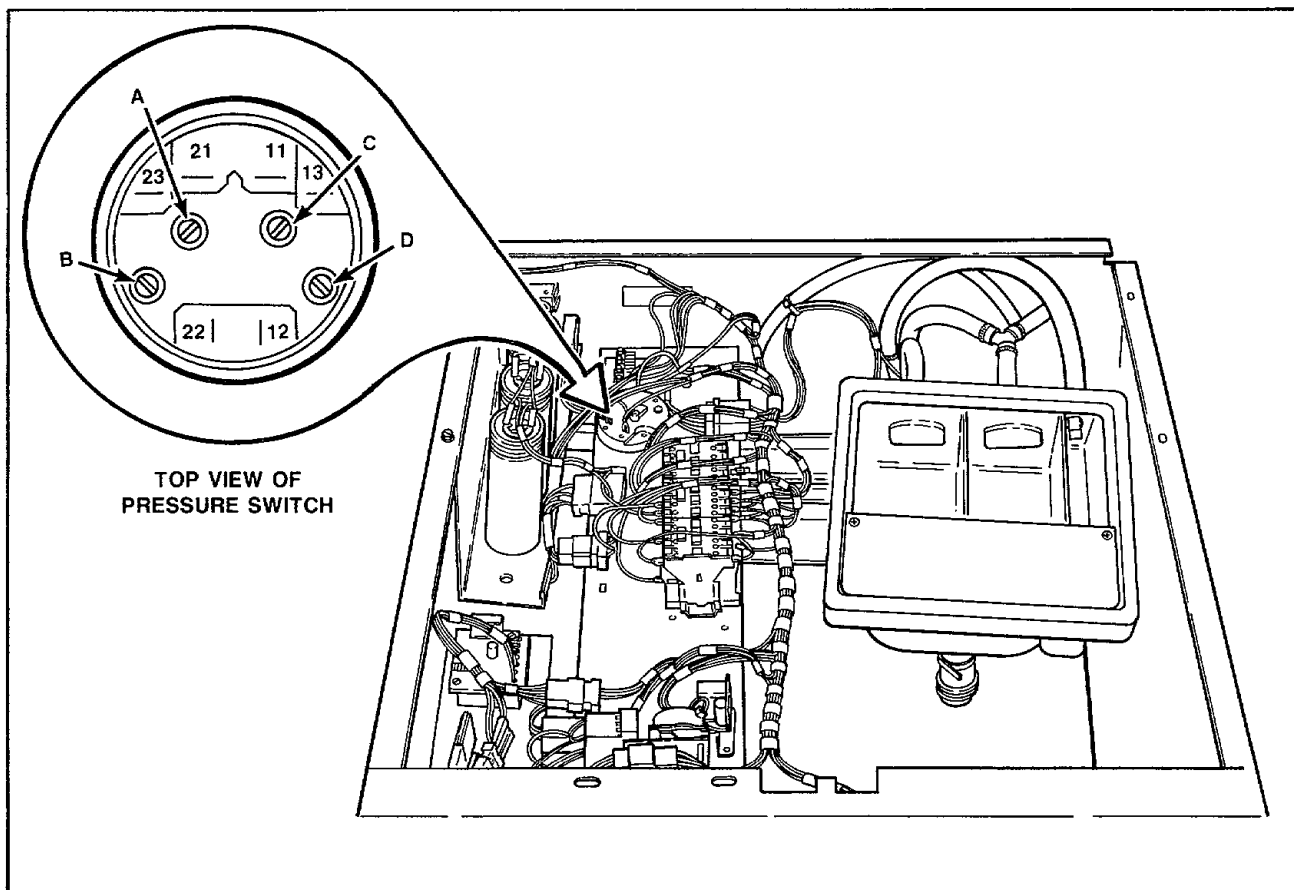

Figure 29
- To **increase** the water level, turn adjustment screw "C" clockwise, *Figure 29*.
- To **increase** the reset point of water setting, turn adjustment screw "D" clockwise, *Figure 29*.